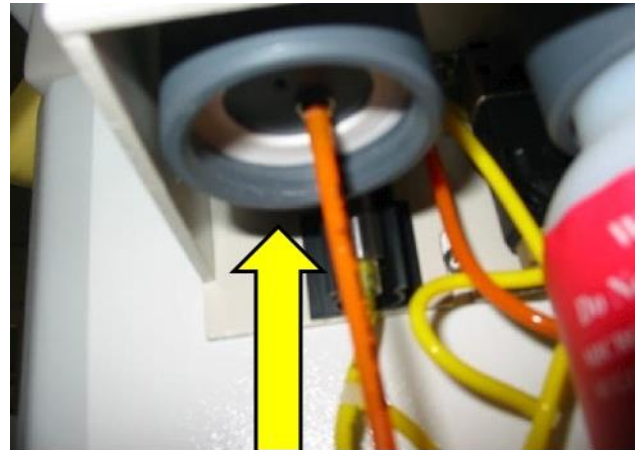

Fig. 2
4. Look up inside of pressure head and locate the gaskets. (Fig. 2)